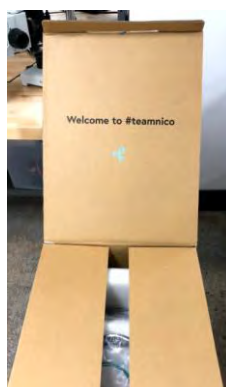

Figure 4.1: Open the box lid for retrieving the instrument.
2. Open the box lid as shown in Figure 4.1.